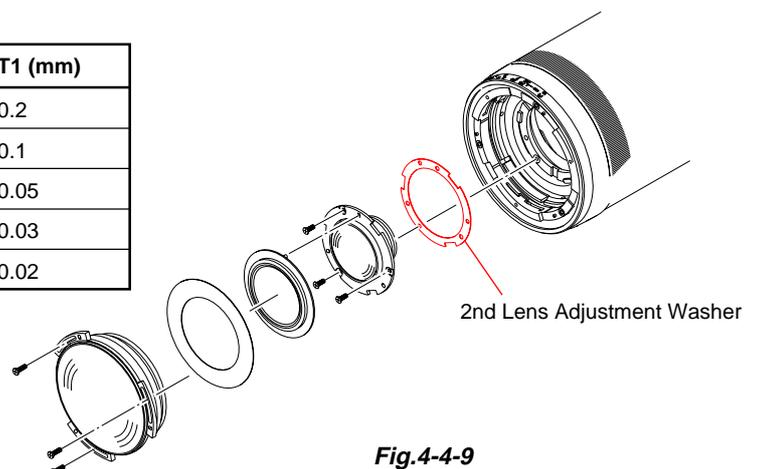

Fig.4-4-9
- 7) According to the value checked in step 6), choose the 2nd lens adjustment washer in the manner shown below. (Table 4-4-2, Fig.4-4-9)
- 12) Choose the back adjustment washer in the manner below and adjust. (Table 4-4-2, Fig.4-4-9)